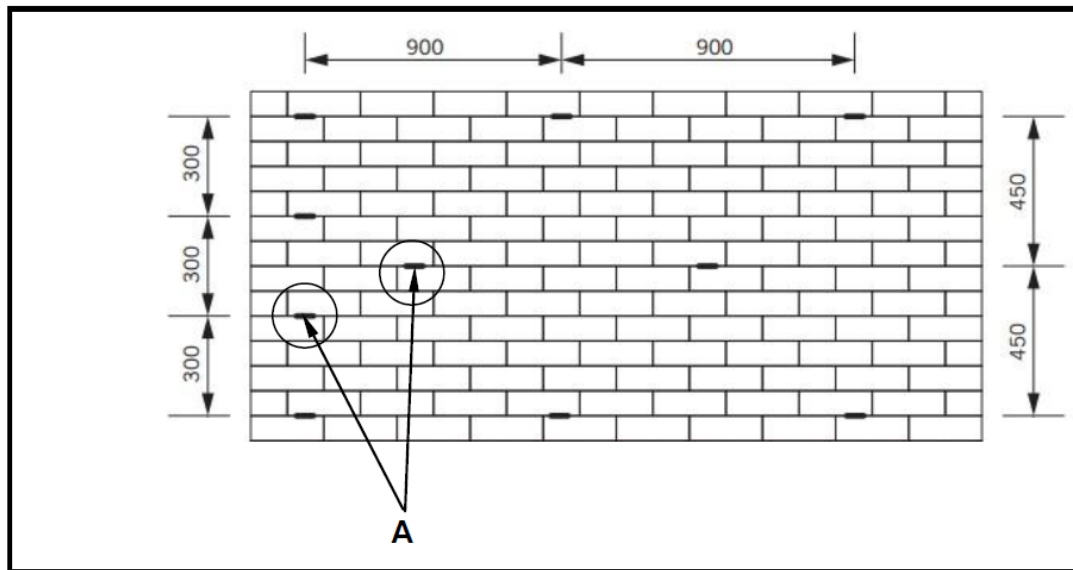

FIGURE 5.4
5.4 FIGURE 5.4 shows the front view of a cavity wall. Answer the following questions with regard to the cavity wall.